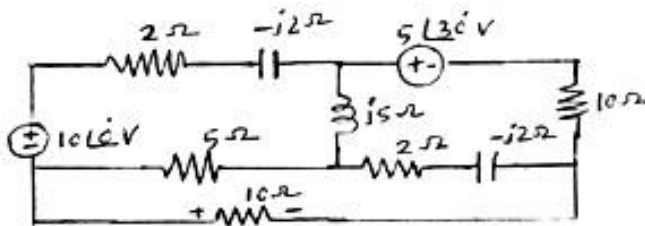

Fig 1.1
5. Write the loop equations of the circuit and find V_x in fig.1.1
Sample networks for the question bank given (fig 1.1 to 3.2)